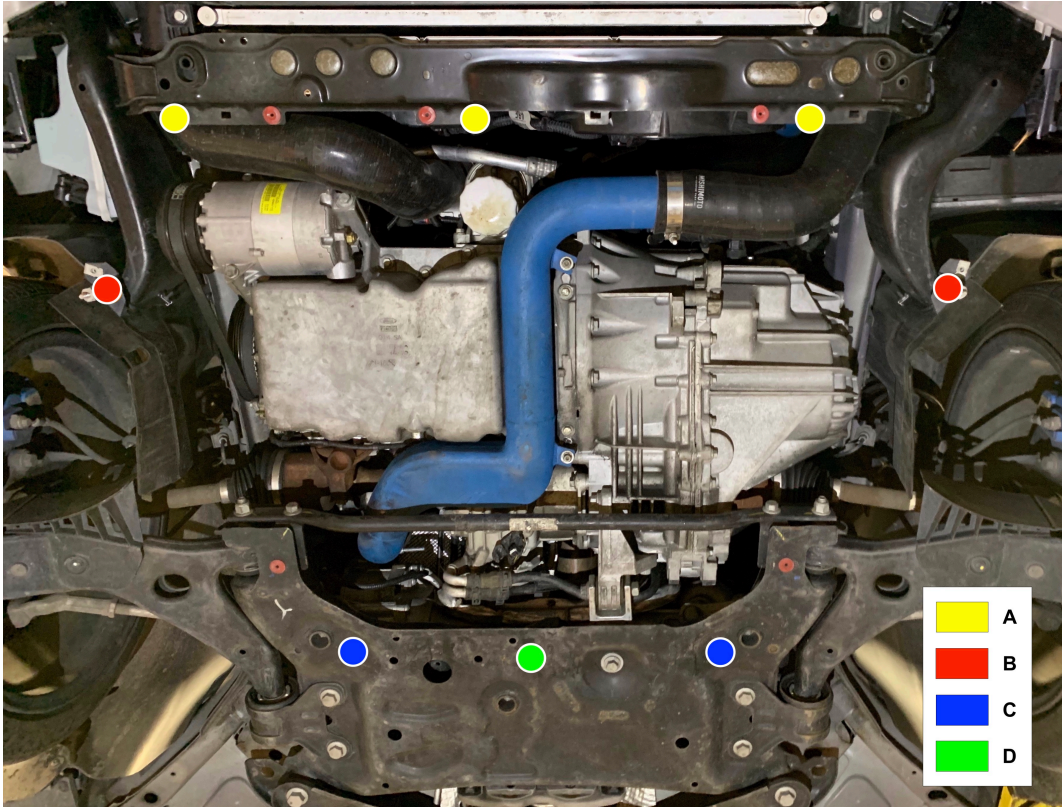

FIGURE 2 - FASTENER LOCATIONS
- 1. **Remove the OEM engine splash guard/belly pan** using T30 Torx driver. Then, using a small flathead screwdriver, **remove the OEM fasteners** from the subframe and the radiator support. It is only necessary to remove the OEM fasteners from the locations specified in Figure 2.
2. **Install provided rivet nuts** into the holes marked **A, C, & D** in Figure 2. Try to keep them centered in the rectangular holes. This can be done with any rivet nut install tool that will work with 1/4-20 threads.
3. **Install Fastener A standoffs-** Using the wide rivet nut washer, center it over a rivet nut in position **A** (yellow) from Figure 2. Thread one end of **Fastener A** into the rivet nut, ensuring the washer doesn't rest on the rivet nut. See Figure 3 for example. Repeat this for all rivet nuts in position A.
5. **Install Fastener C standoffs-** Thread the two **Fastener C** standoffs into the two outside rivet nuts in the subframe, position **C** (blue) in Figure 2, using the same wide rivet nut washer in Figure 3.
6. **Install Fastener D standoff-** Thread the **Fastener D** into the rivet nut in the center of the subframe, position **D** (green) from Figure 2, using the same wide rivet nut washer as in Figure 3.